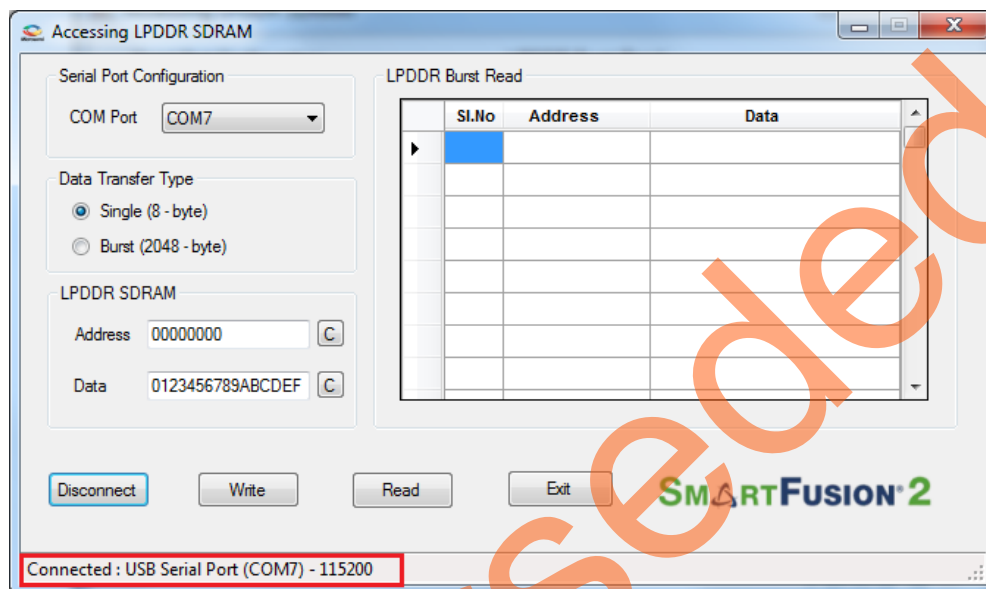

Figure 20 • SF2_MDDR_Demo – Connection Status
3. Click **Connect**. The connection status along with the COM Port and Baud rate is shown in the left bottom corner of the screen. Figure 20 shows the connection status of the utility.